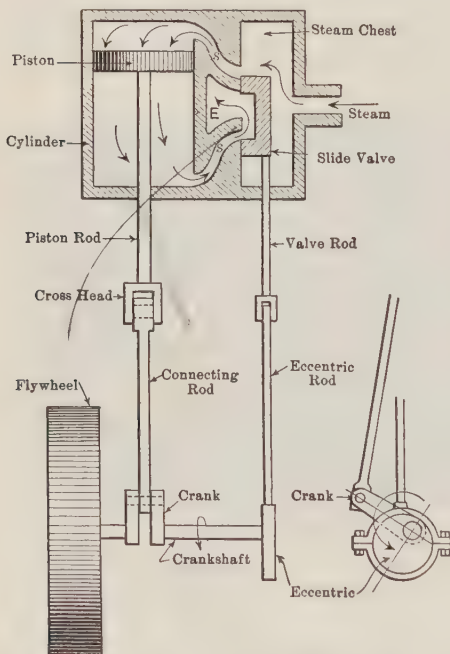
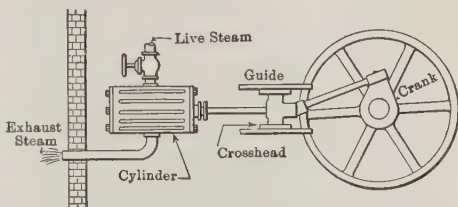
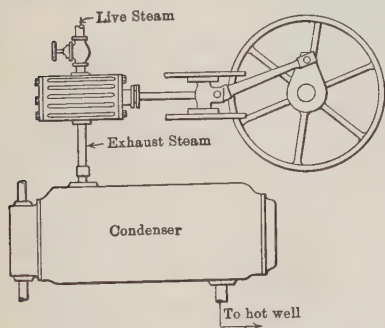

FIGURE 646. — SLIDE VALVE ENGINE.
FIGURE 647. — A NON-CONDENSING ENGINE EXHAUSTS INTO THE AIR.
FIGURE 648. — The back pressure of the atmosphere against the piston is lessened by condensing the exhaust steam.
**444. Valve Control.**—There are two common methods of valve control in the reciprocating steam engine, slide valves and rotary valves. In the slide-valve type (Figure 646) a steam chest receives the live steam from the boiler. Leading from the steam chest to the cylinder are two openings, or ports (*S, S*), while a third opening (*E*) leads from the steam chest either to the outside air (non-condensing, Figure 647) or to a condenser (condensing type, Figure 648). A slide